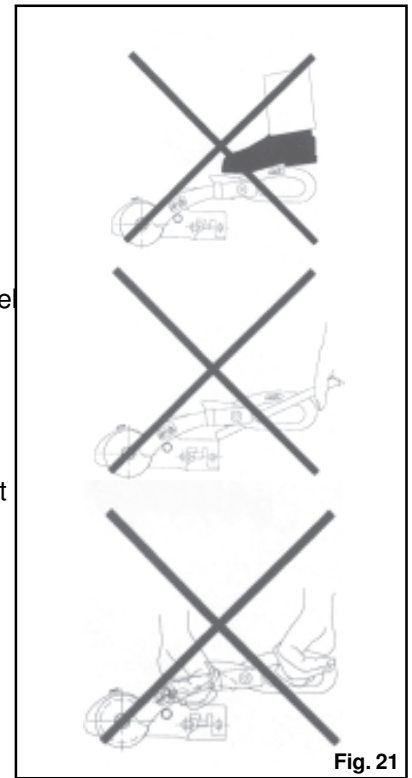

Fig. 21
- 2) Press stabiliser lever down by hand force only DO NOT use your foot or an extension bar, this will damage the components (Fig. 21).
- 3) When opening or closing the stabiliser lever, please ensure your hand does not touch the coupling handle - you may accidentally trap your fingers! (Fig. 21).